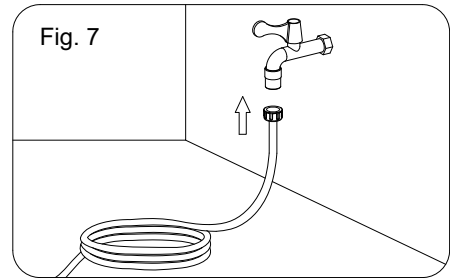

Fig. 7
6. Connect to water supply (Fig. 7)